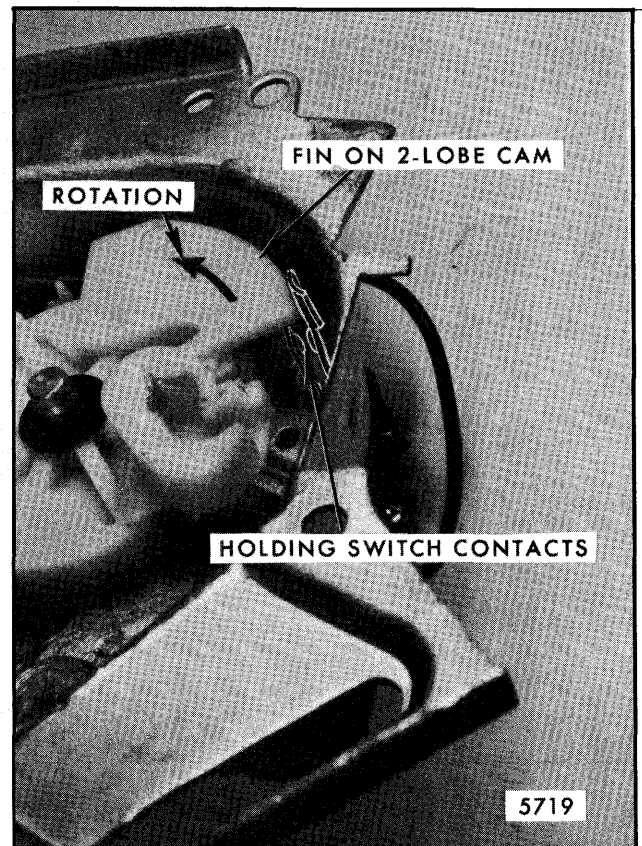

Fig. 2-54A-Holding Switch Contacts
3. Holding Switch - Used in conjunction with the timing device to control the delay mode of operation. This switch is actuated by a fin on the washer pump drive cam (refer to Fig. 2-54A).